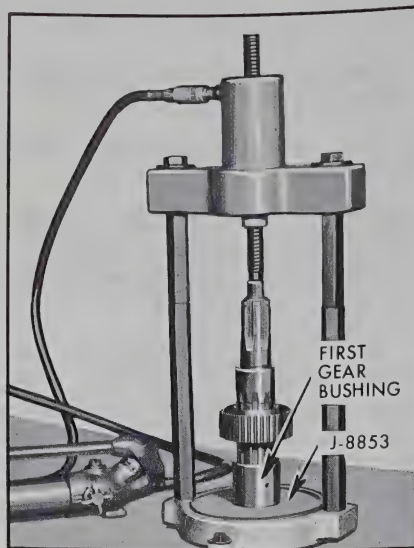

Figure 4-134—Installing First Speed Gear Bushing Using J-8853
1. From rear of mainshaft, assemble first and second speed clutch assembly to mainshaft (sliding clutch sleeve tapered toward the rear, hub to the front) and using J-8853, press the first gear bushing on shaft. See Figure 4-134.